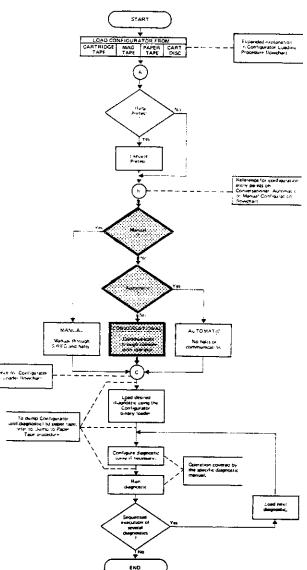

Figure 2-4. Conversational Configuration Flowchart
3. SET S-REG TO: (a) The console select code (Conversational, figure 2-4).
This procedure, which provides a fully conversational configuration from the console, must be used when a line printer is required**. It should also be used (if possible) when the operator is not familiar with the program operation. This procedure requires a console with one of the console interfaces listed in paragraph 1-2c. The Conversational Configuration flowchart is shown in figure 2-4.